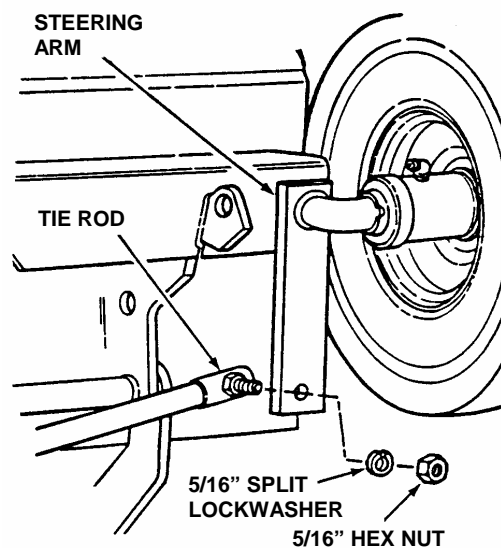

FIGURE 3
- Install tie rods, 5/16" lock washers and 5/16"-24 hex nuts. Tighten securely. See Figure 3.